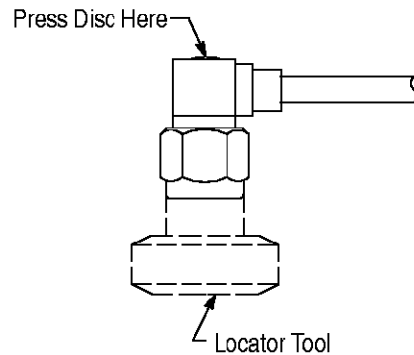

Figure 4
6. Solder the housing subassembly to the cable. Refer to Figure 4, Detail A.
7. Refer to Figure 4, Detail B, and install the disk onto the housing subassembly according to the following preferred option: